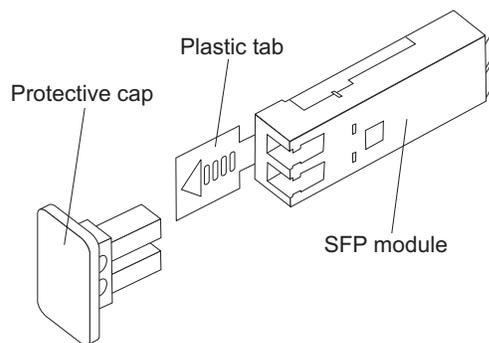

Figure 23. SFP module and protective cap
2. Remove the protective cap from the SFP module, as shown in Figure 23. Save the protective cap for future use.
2. If necessary, remove the protective cap from the SFP module, as shown in Figure 23 on page 48. Save the protective cap for future use.